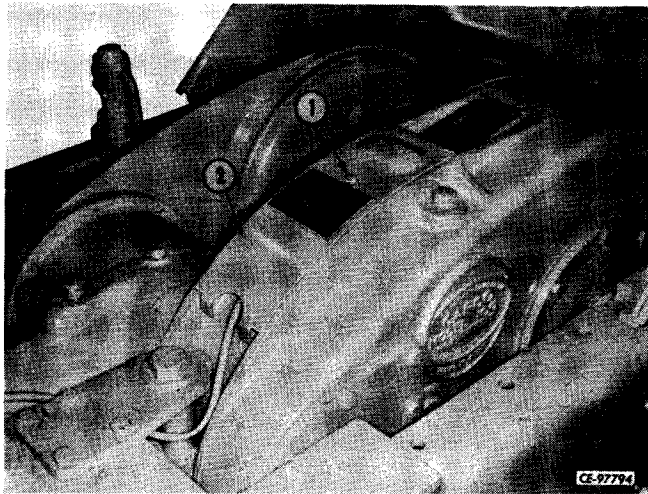

Figure 14-3
Remove cap screw (1, Fig. 14-3) and brake adjusting cover (2) from winch housing.